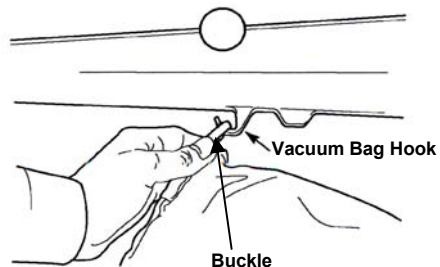

Fig. 3
1. Slide the buckle that is on the vacuum bag onto the vacuum bag hook that is on the underside of the blower/vacuum tube. (Fig. 3)